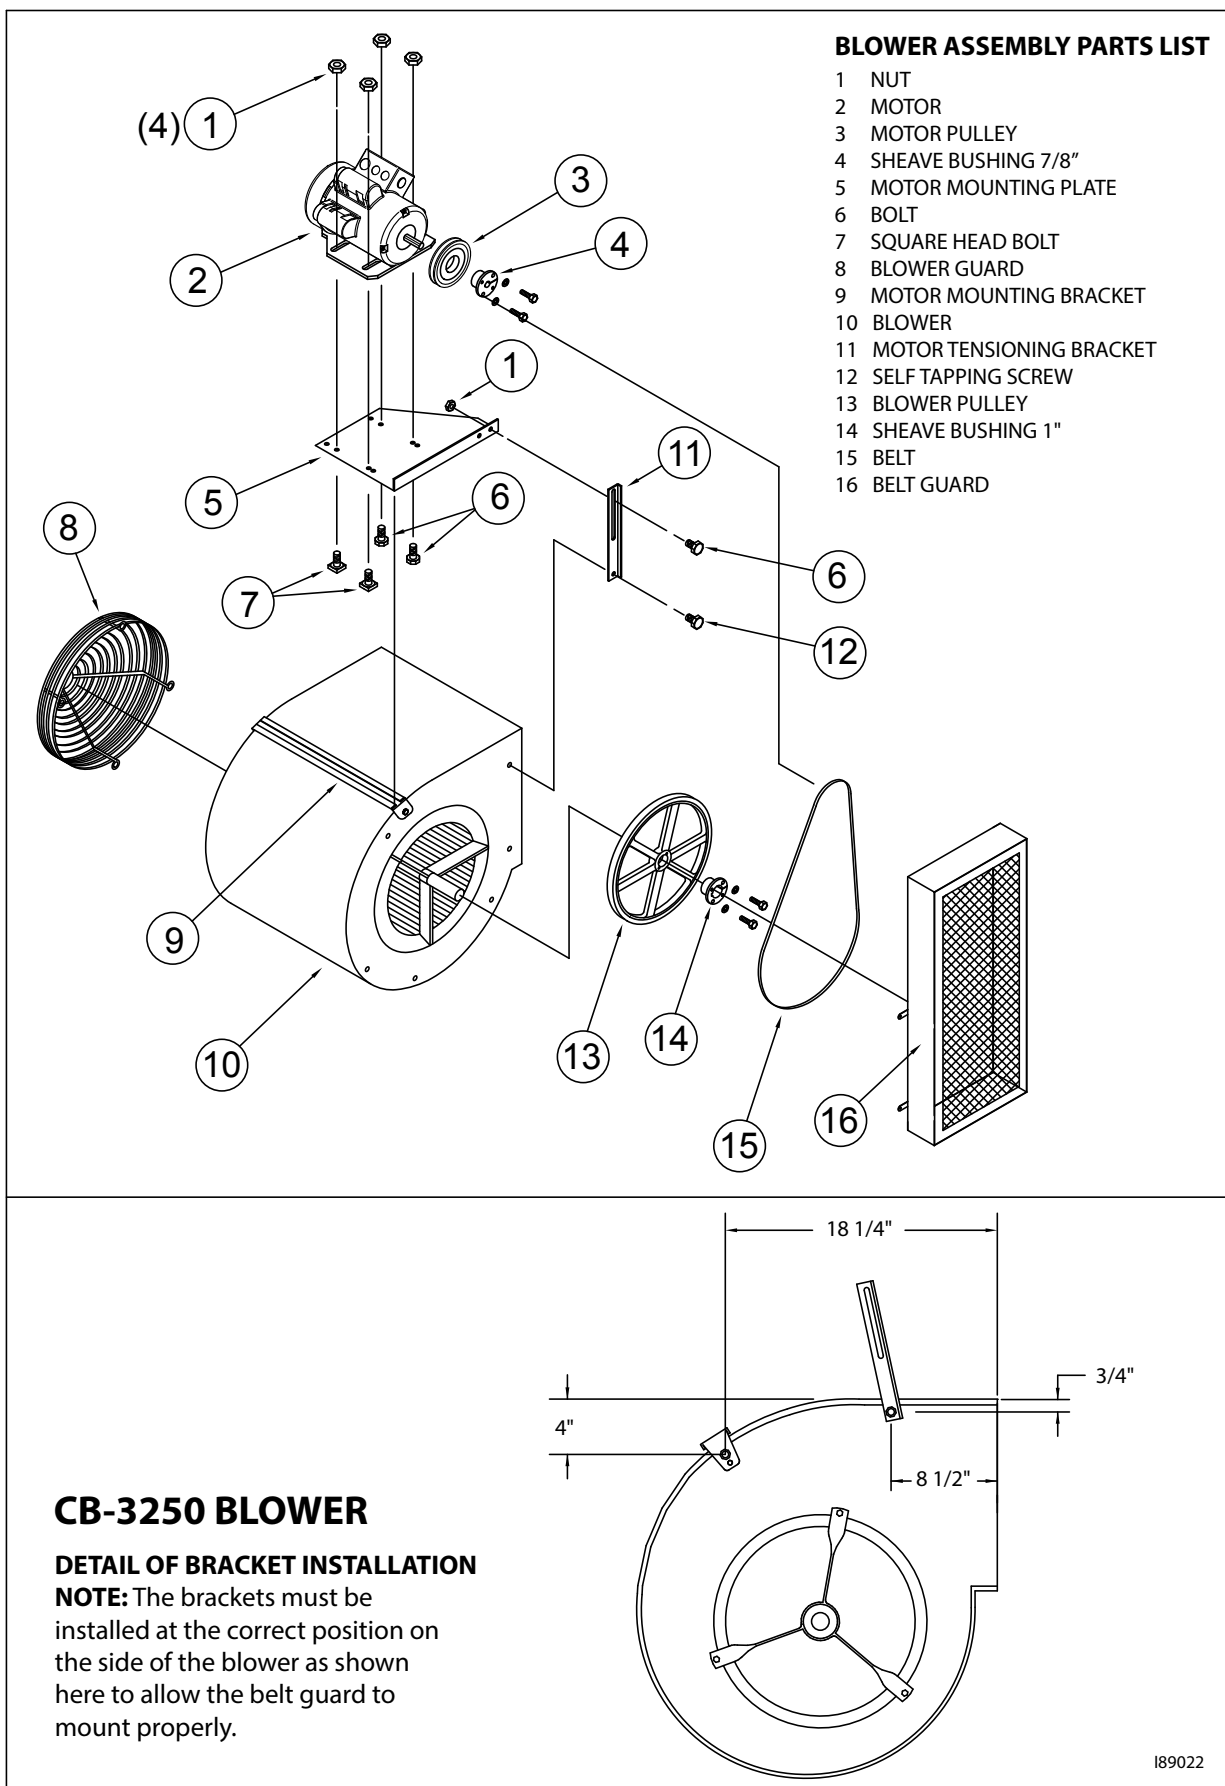

Figure 3F - Blower Assembly Parts Detail (CB-3250)
1. Refer to Figures 3F and 3G.
2. Use self-tapping bolts to install the motor mounting bracket on the blower according to the dimensions provided in Figure 3F.
3. Slide the two (2) square-head bolts upside-down in the channel of the motor mounting bracket.
5. Use a self-tapping bolt to install the motor tensioning bracket on the blower according to the dimensions provided in Figure 3F.
7. Lift the motor into position on the motor mounting plate using the two bolts in the channel to hold the motor in place. Now loosely install the nuts on the two (2) bolts.
9. Install the additional two (2) bolts and nuts through the upper holes in the motor mounting plate and motor. Tighten the nuts to hold the motor firmly in position.
1. Review the contents of the Blower Pulley and Motor Pulley as shown in Figure 3F.
2. Refer to Figure 3F. Place the blower pulley over and onto the blower shaft as far as possible with large bore end of taper outward.
1. Refer to Figure 3F and 3G.